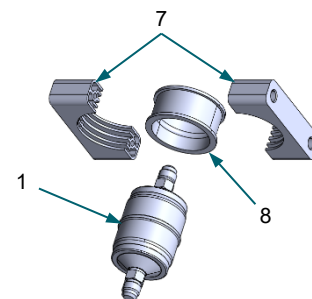

Figure 6:
- Remove two fasteners (*not shown*) securing Block Clamp to OEM plate (*not shown*) at chassis crossmember. *Figure 6*
- Remove (1) Fuel Filter from (7) Block Clamp and (8) Isolator. *Figure 6*